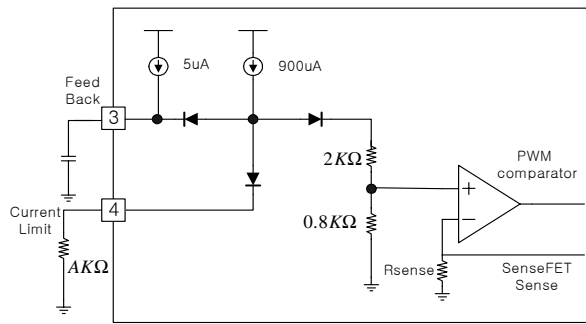

Figure 14. Peak current adjustment
**8. Adjusting Current limit function:** As shown in fig 14, a combined  $2.8K\Omega$  internal resistance is connected into the non-inverting lead on the PWM comparator. A external resistance of Y on the current limit pin forms a parallel resistance with the  $2.8K\Omega$  when the internal diodes are biased by the main current source of  $900\mu A$ .